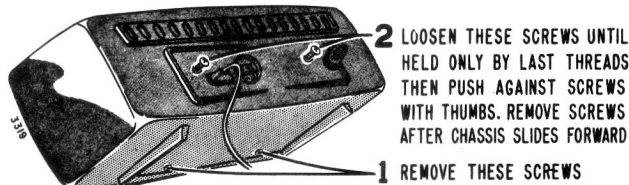

Figure 2. Rear View of Cabinet Showing Chassis Mounting Screws.
1. Disconnect line cord plug, then tilt cabinet forward and remove two screws located on the bottom near the front. See figure 2.
1. Remove the cabinet as illustrated in figure 2.